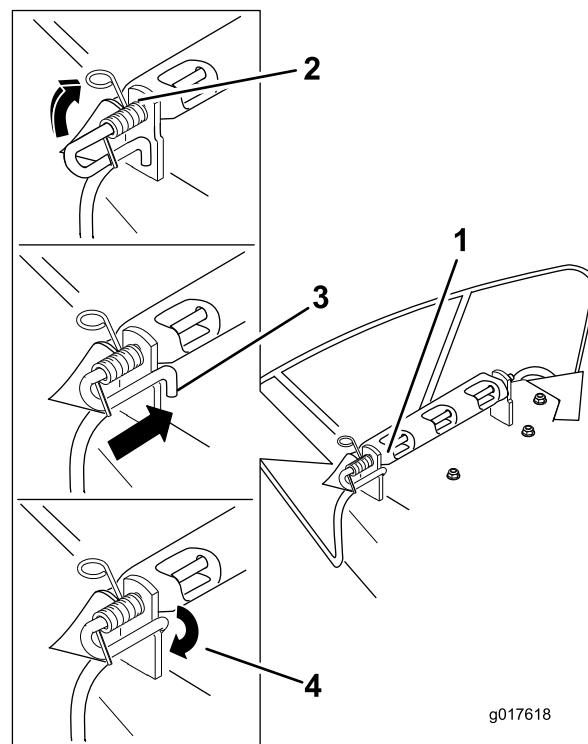

Figure 70
3. Position the new discharge deflector with the bracket ends between the welded brackets on the deck as shown in Figure 70.
6. Lift the loop end of the spring and place it into the notch on the deflector bracket (Figure 70).
7. Secure the rod and spring assembly by twisting it so that the short end of the rod is behind the front bracket welded to the deck (Figure 70).